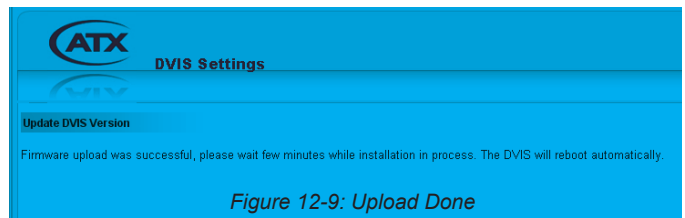

Figure 12-9: Upload Done
2. Click **Update** to begin uploading the file to the unit. A progress bar indicates the percentage completion (0 to 100%). When the upload is finished, the Upload Done page appears in the web browser as shown in Figure 12-9 and file installation on the DigiVu begins automatically.